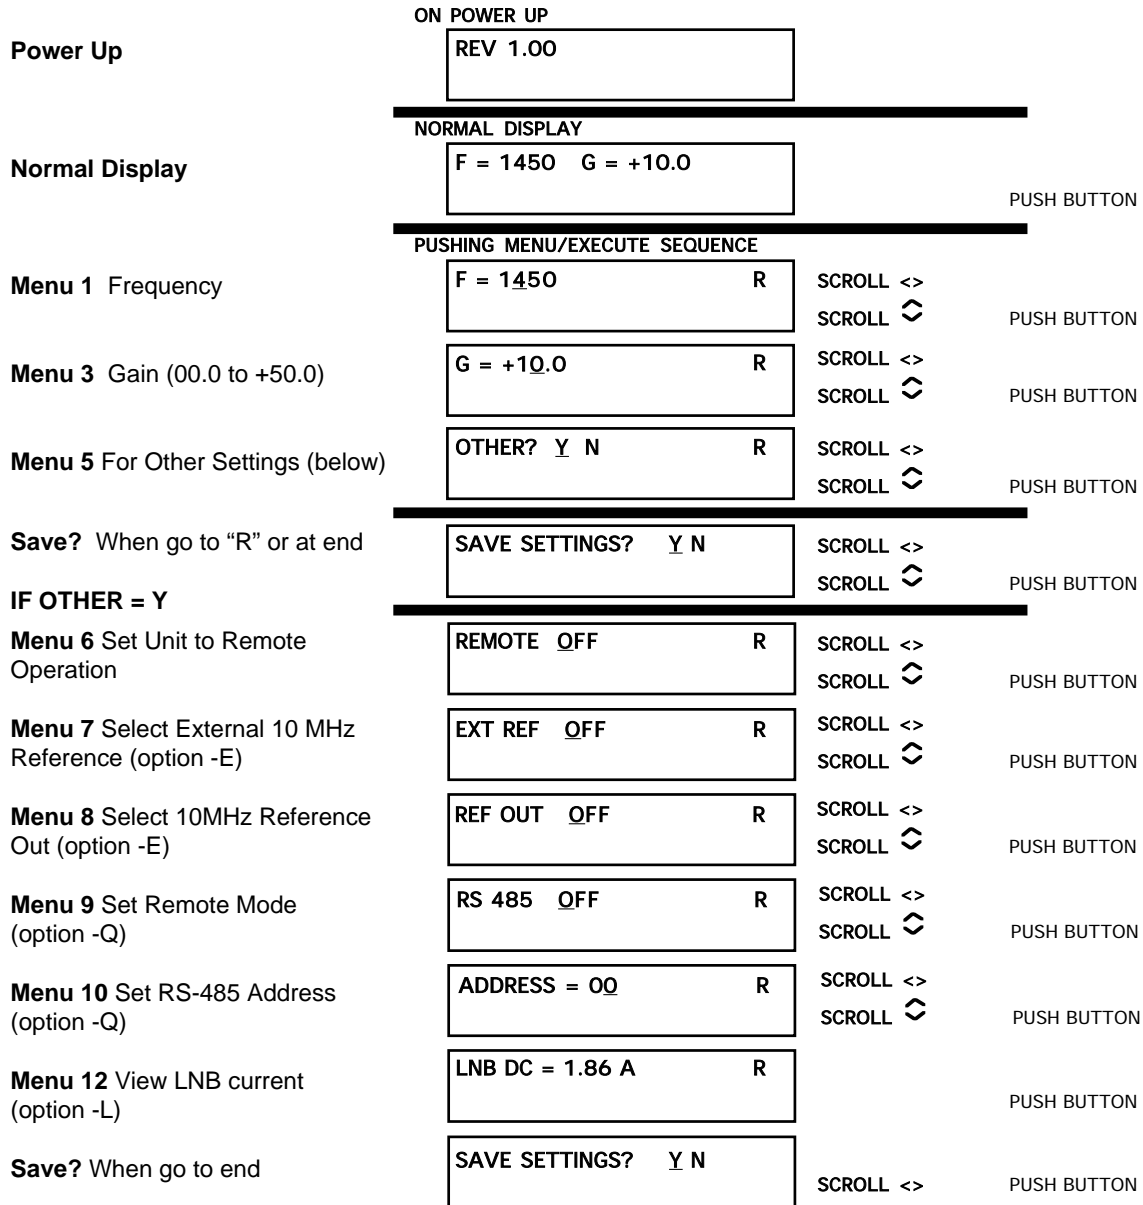

FIGURE 2.5 Menu Display and Sequence
2.5.1 Functions - This section describes operation of the front panel controls. There are three operator switches, the LCD display and alarm indicator LEDs. All functions for the equipment are controlled by these components. The functions are (see Figure 2.5):
Operate the Menu/Execute switch until you get to the menu item you want to change, see Figure 2.5 for the sequence of menu options. The following display is for changing the downconverter frequency:
Figure 2.5 gives the menu items and how to make changes.
Push the Menu/Execute switch to get to the gain setting (See Figure 2.5 for the sequence of menu options):